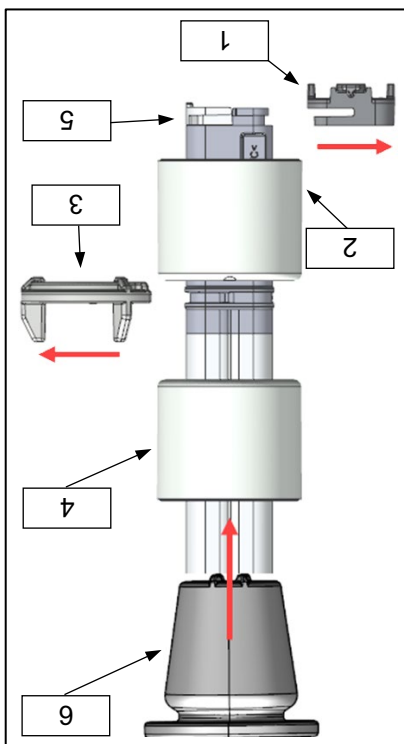

Figure 9
- ▶ Pull off the defective snap ring (Figure 9, item 3) to the side.
- ▶ Pull out the filter sieve (Figure 9, item 1) to the side.